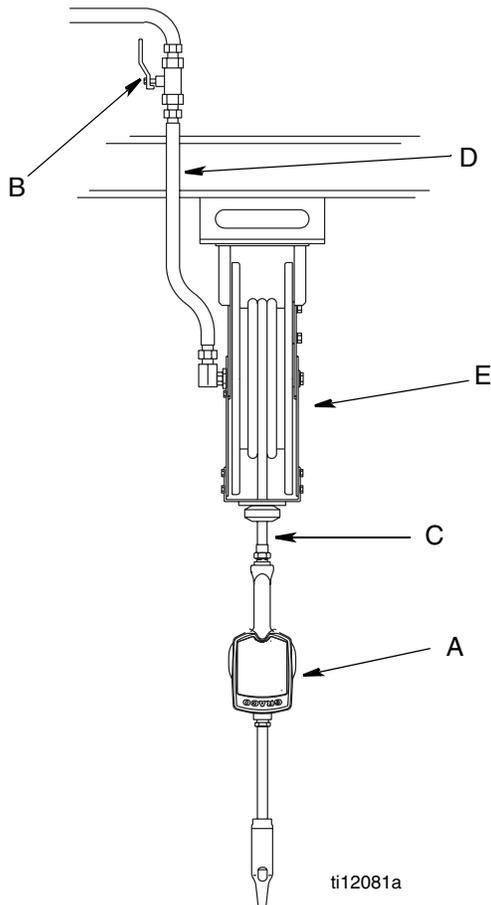
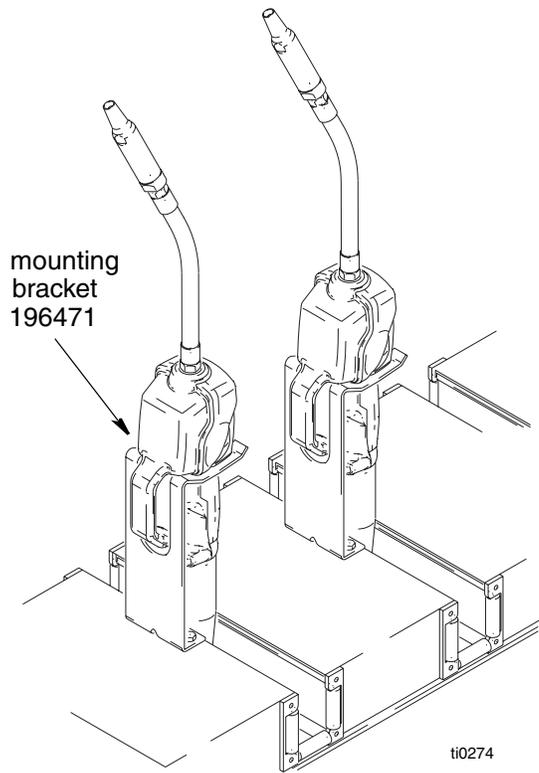

FIG. 1
FIG. 2
FIG. 1 shows a typical hose reel installation. Dispense valves can also be installed on a console as shown in FIG. 2.
The typical installation shown in FIG. 1 is only a guide. It is not a complete system design. Contact your Graco distributor for assistance in designing a system to suit your needs.
Mounting bracket 196471 is available for resting dispense valve on a console. See FIG. 2.
3. Close the shut-off valve (B, FIG. 1, page 3).